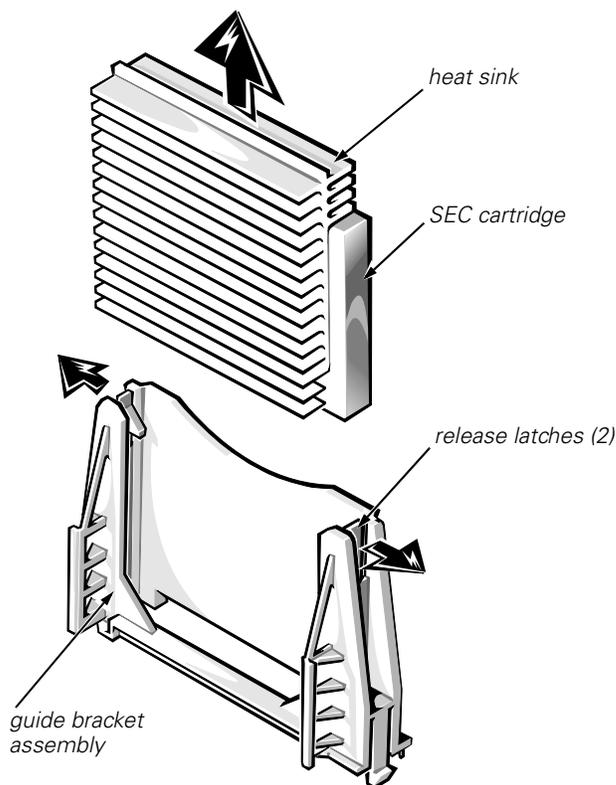

Figure 4-23. SEC Cartridge Release Latches
1. For the unit to be removed, press outward on the two SEC cartridge release latches until they snap into the open position (see Figure 4-23).
To replace an SEC cartridge, make sure the cartridge release latches are in the open position, orient the new SEC cartridge in the guide bracket assembly as shown in Figure 4-23, seat it firmly, and then snap the release latches back into place.